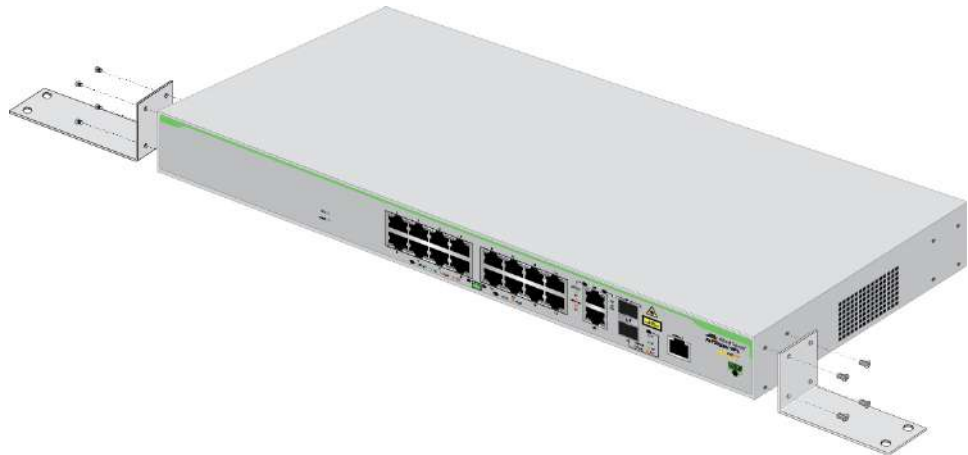

Figure 25. Attaching the Brackets to the Switch
2. Orient the brackets against the sides of the switch and secure them to the switch with the eight screws as shown in Figure 25 on page 52.